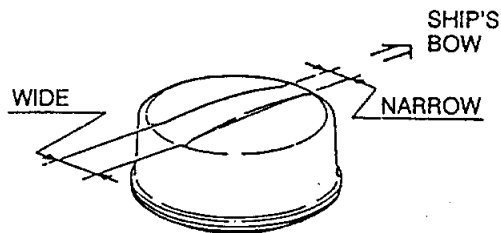

Figure 6-8 Radome Cover Placement
- Put the radome on the radome base assembly, orienting the narrower recessed part in the direction of the bow. See Figure 6-8.